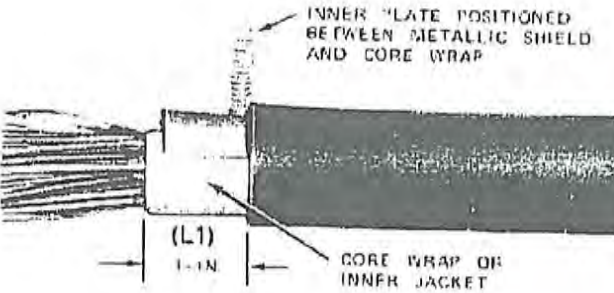

Figure 8 - Installing D Bond Clamp
3.07 The D , Gator, and Small Gator Bond Clamps all use the same procedures for installation except for the length of jacket removal and jacket slits as described below. The installation procedures will be illustrated with a D bond clamp (Figure 8).
3.09 Remove an additional length (L1) of the jacket and shield. For dual-sheath cable, remove a length (L1) of outer sheath. (L1 is shown on Figure 8.)
For any of the above conditions, use shears to make a cut of length L2 in the outer jacket and shield. (L2 is shown on Figure 8.)